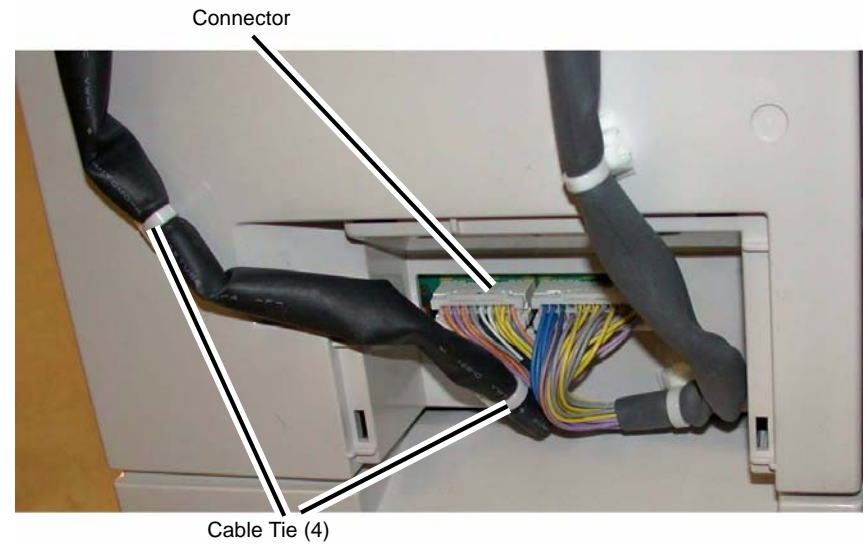

Figure 3 Disconnecting the Booklet Maker Assembly
- b. Disconnect the Connector (Figure 3).
- c. Pull out the Cable Ties (4).